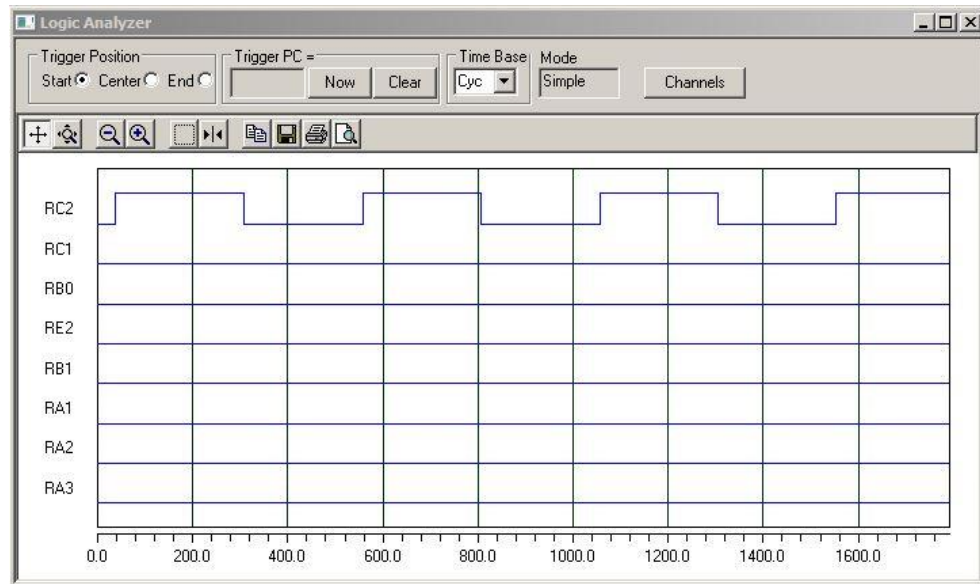

Figure 1. Pulse train at bit RC2.
- Add the channels **RC2**, **RC1**, **RB0**, **RE2**, **RB1**, **RA1**, **RA2**, and **RA3** to the *Logic Analyzer* window and let the animation run for some time. Your *Logic Analyzer* window should look as in Figure 1:
1. Write assembly code to set INT0 (bit **RB0** in PORTB) as your High Priority Interrupt and INT1 (bit **RB1** in PORTB) as your Low Priority Interrupt. These bits will be interpreted as the external, **asynchronous** signals to be used as your interrupt triggering signals in order to execute an interruption of the mainline program. Note that **RB0** and **RB1** will be monitored from the *Logic Analyzer* window shown in Figure 1, but they will be triggered from the *Stimulus* window in Figure 2. The signal on **RE2** is an additional external input signal that will be supplied (or triggered) by the human programmer or program user—we will call this asynchronous signal on **RE2** the *Human Input Signal*. **During the animation of the main program, whenever you want to trigger (or fire) an interrupt event on either RB0, RB1, or RE2, you must click on the corresponding Fire button to the left of each signal in the Stimulus window, and then see what happens on the Logic Analyzer window.**
- b. When an asynchronous, low priority (LP) interrupt event occurs, that is, when you trigger or fire the interrupt signal **RB1** from the *Stimulus* window, the following actions must take place: